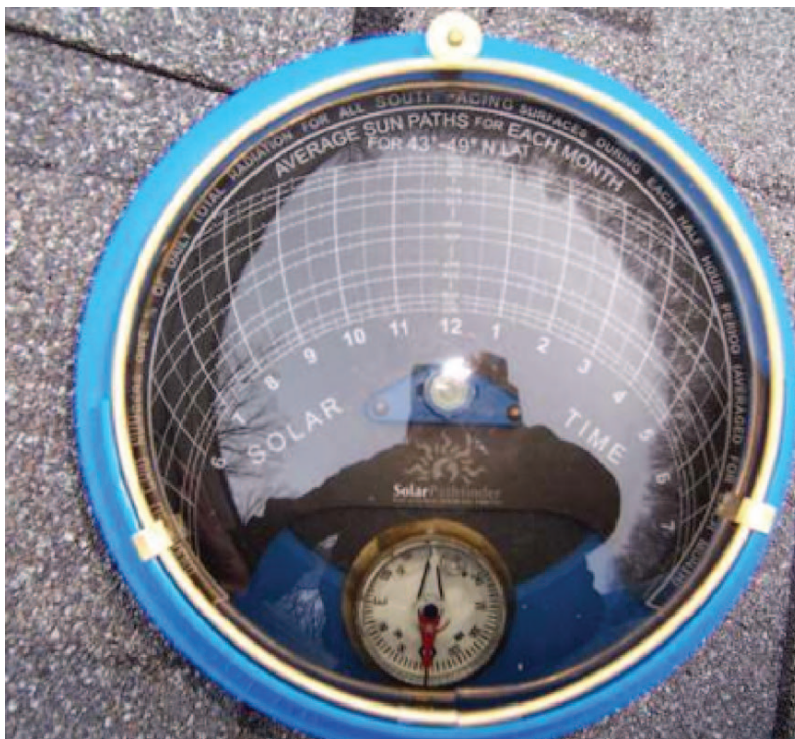

Figure 1 Solar pathfinder
- Figure 1 Solar supplementing a radiant floor system © Caleffi Hydronic Solutions. Used with permission.
Probably the single most important consideration in a solar system is the placing of the collector(s), with any possibility of shading being the determining factor. Collector arrays located so that they have direct sun playing on them all day long, if it is present, is certainly the situation to strive for. Properly assessing every potential site for possible shading from trees, hills and other objects is extremely critical and can be challenging, given the conditions and time of year that the assessment is being done. Special tools are available that can assist in predicting the possible occurrence of shading at any specific location. One such tool, called a “solar pathfinder”, is shown in Figure 1 below.